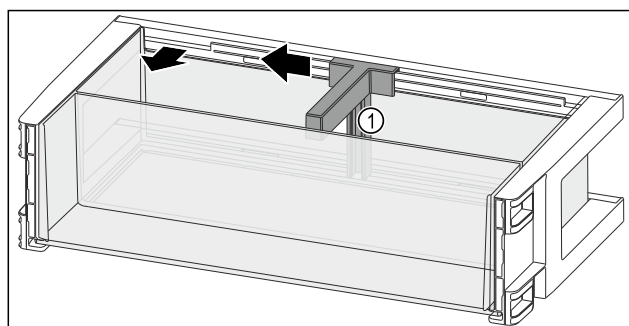

Fig. 90
- Slide the bottle holder Fig. 90 (1) to the side as far as the recess.
- Remove the bottle holder Fig. 90 (1).